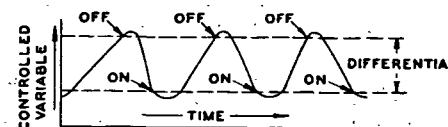

FIG. 2. TWO-POSITION CONTROL
1. *Two-position action*, Fig. 2, is the type in which the controlled device can be positioned only to a maximum or minimum position, or can be either *on* or *off*. A thermostat which opens and closes a valve, or starts and stops a burner, is an example.